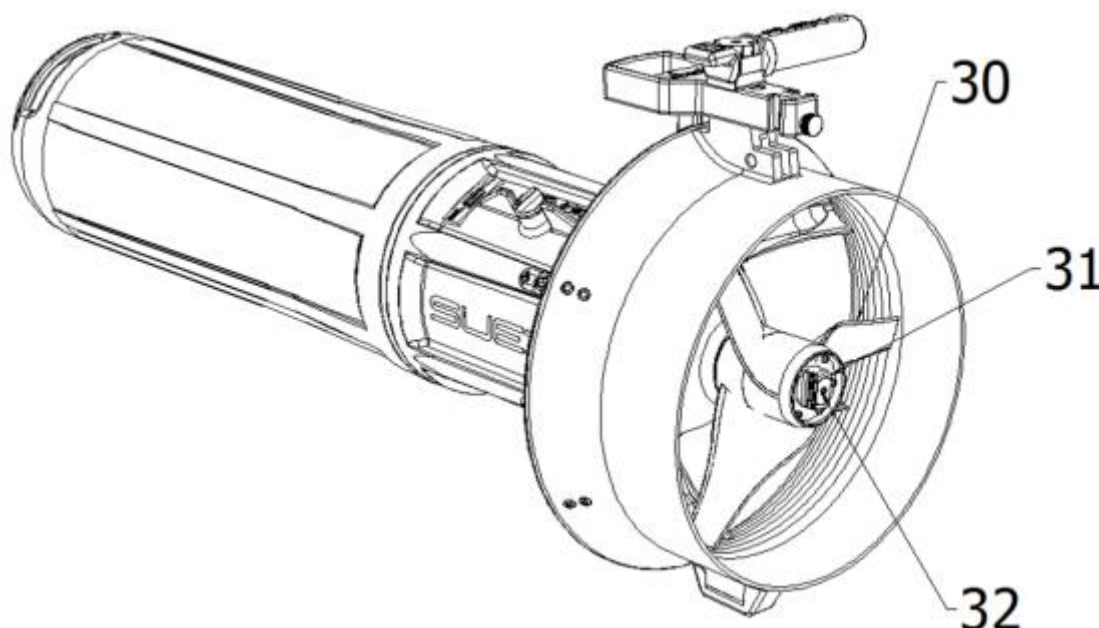

Fig. 8 - Removal of the propeller
Grasp the propeller by a blade (30 - Fig. 8) and unscrew the knob (31), turning anticlockwise until the propeller is completely extracted.